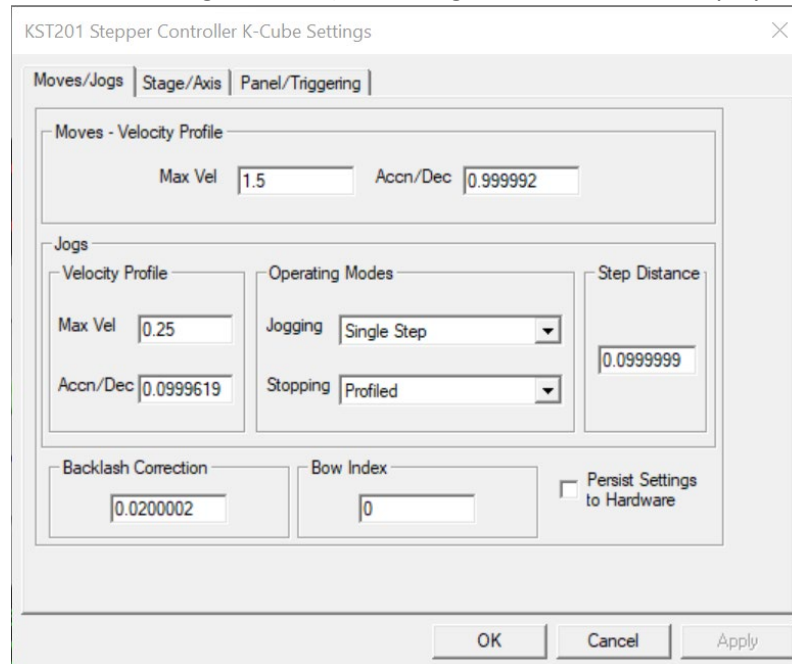

Figure 17 Settings Panel – Move/Jogs Tab
2. Select the Move/Jogs tab as shown in Figure 17.